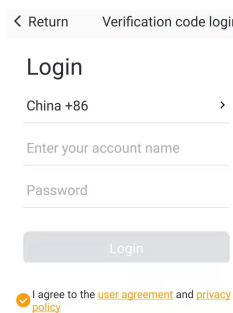

Figure 3
- (4). Register a new user according to the prompt in the registration interface (Figure 3).